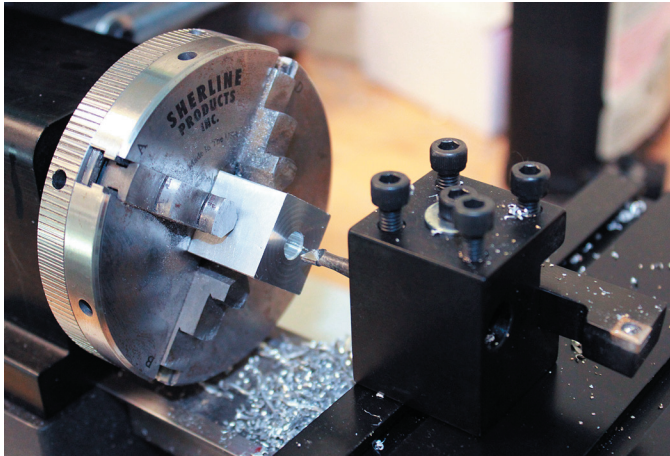

Figure 4—Boring the first hole to .240 diameter and .267" deep
2. Rough and finish bore the .240" diameter x .267" deep on all sides. Machine the cube by cutting opposite sides (if it were numbers on a dice you would machine the side with (1) and then the side with (6) etc.). (See Figure 4.)